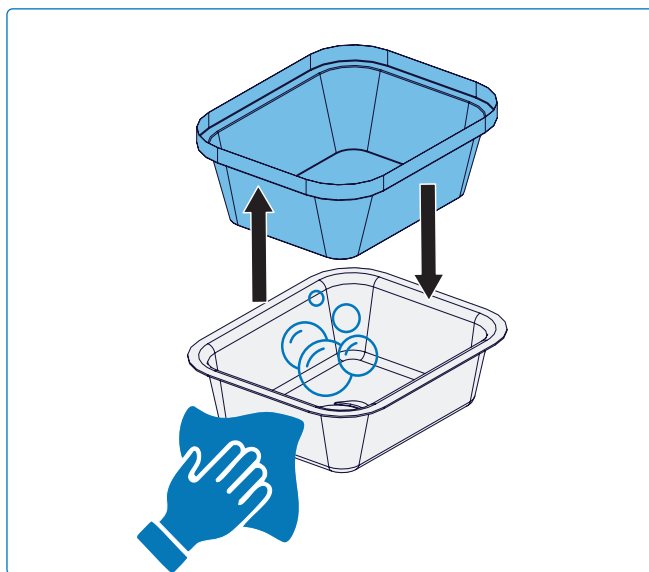

Fig. 24
3. Replace the disposable grease tray every 2–4 weeks, depending on usage (**Fig 24**).